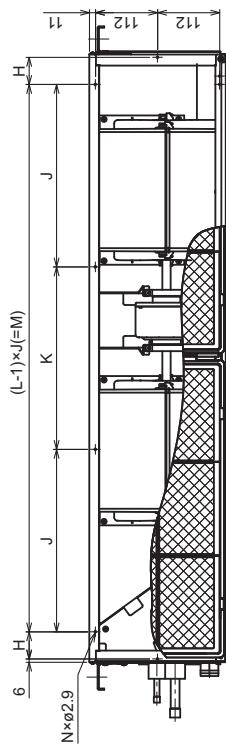

Fig.2 (Viewed from the direction of the arrow A)
· Create access door 1 and 2 (450×450mm each) as shown in Fig.2.
- Create access door 1 and 2 (450×450mm each) as shown in Fig.2.